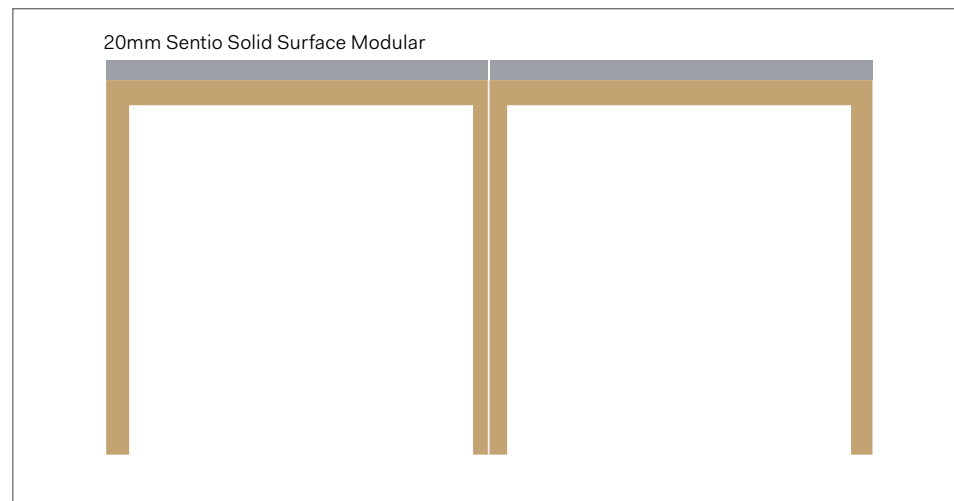

Fig. 3 Recommended position
- Always cut so the join sits on the cabinet end panel of the cabinet wherever possible (Fig. 3), enabling benchtops to be joined on a gable end not in the middle. This gives added support to a join and a stronger area for shimming up the surface to achieve a flush join. Where this isn't possible an MDF strip (90x25mm) should be secured below the join to give added support.